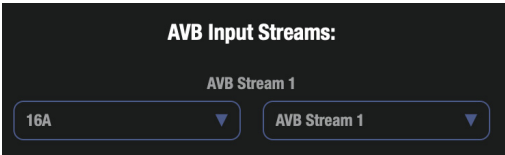

Figure 9-2: Connecting an input stream.
- 4 Go to the Device tab. In the *AVB Input Streams* section choose the 848 as a source device for one of the streams and choose *Media Clock* for its *Source Stream* (Figure 9-2 on page 74), if compatible. If not, choose any available input stream from the menu.